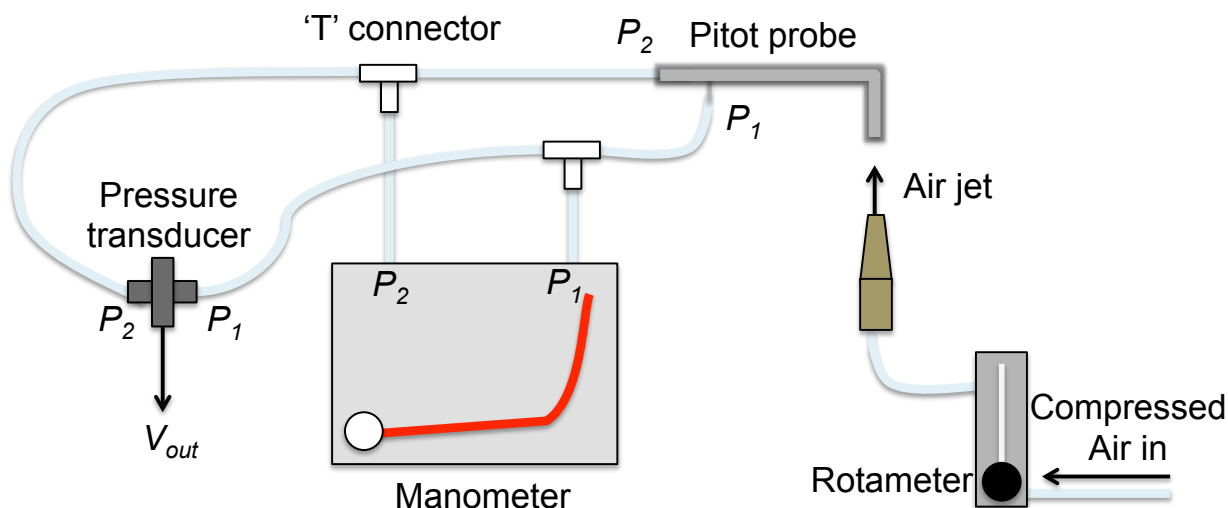

Figure 3 – A schematic of the experimental setup for calibrating the capacitive pressure transducer and measuring airspeed with the Pitot probe.
Shown in Figure 3 is a schematic of the overall experimental set-up. As you calibrate the pressure transducer, you will simultaneously measure the airspeed of a jet as a function of flow rate. Theoretically, the average velocity $\langle u \rangle$ is related to the flow rate Q by the equation
6. The tubes from the transducer should be connected to a couple of 'T's, which split the gas flow between the Pitot probe and manometer. Connect the other tubes from the 'T' to the manometer and Pitot probe, as shown in Fig. 3.